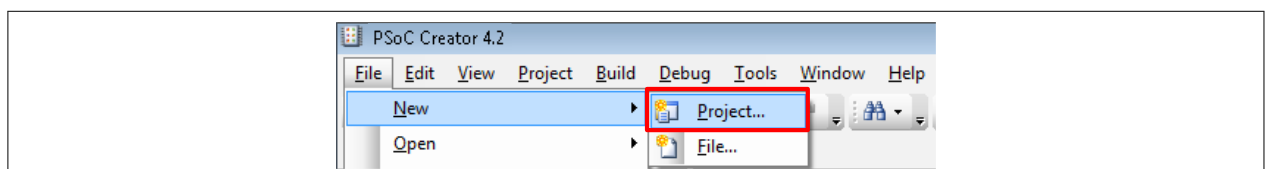

Figure 14 Create a new PSoC™ Creator project
- Choose **File > New > Project**, as Figure 14 shows. The **Create Project** window appears
Tip: PSoC™ Creator speeds up the development process by automatically setting various project options for specified development kits or target devices. See Figure 14 for help with this step.